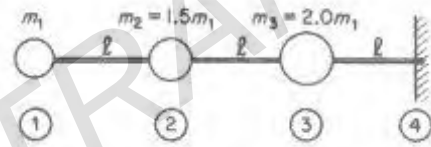

Figure 8b
7. A uniform massless cantilever beam of total length 1.5m and $EI = 0.1 \times 10^6 \text{ Nm}^2$ carries three lumped masses at points along its length as shown in the figure 8b. The smallest mass $m_1 = 100 \text{ kg}$.